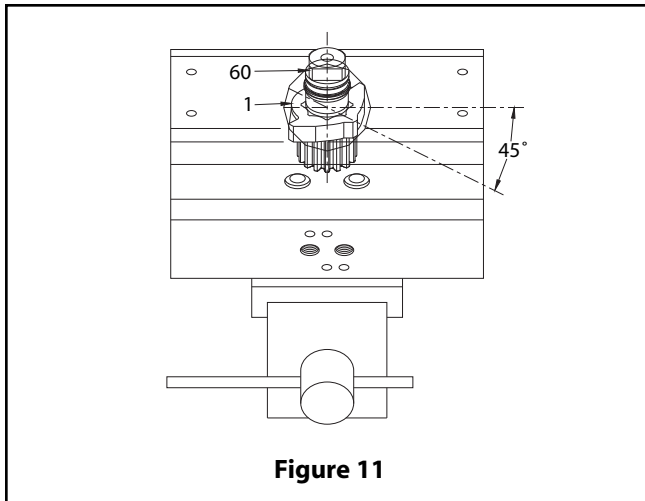

Figure 11
- D. Ensure that the octi-cam (1) is in the correct position as shown by **(Figure 11)**.